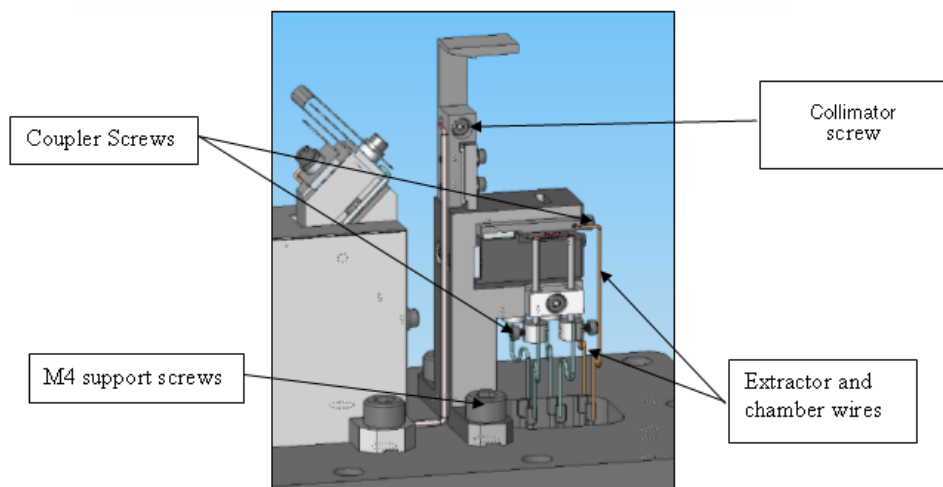

Figure 5: Ion Support Assembly
11. Use an M1.5 Allen wrench to unscrew the six coupler screws and the collimator screw (Figure 5: Ion Support Assembly).